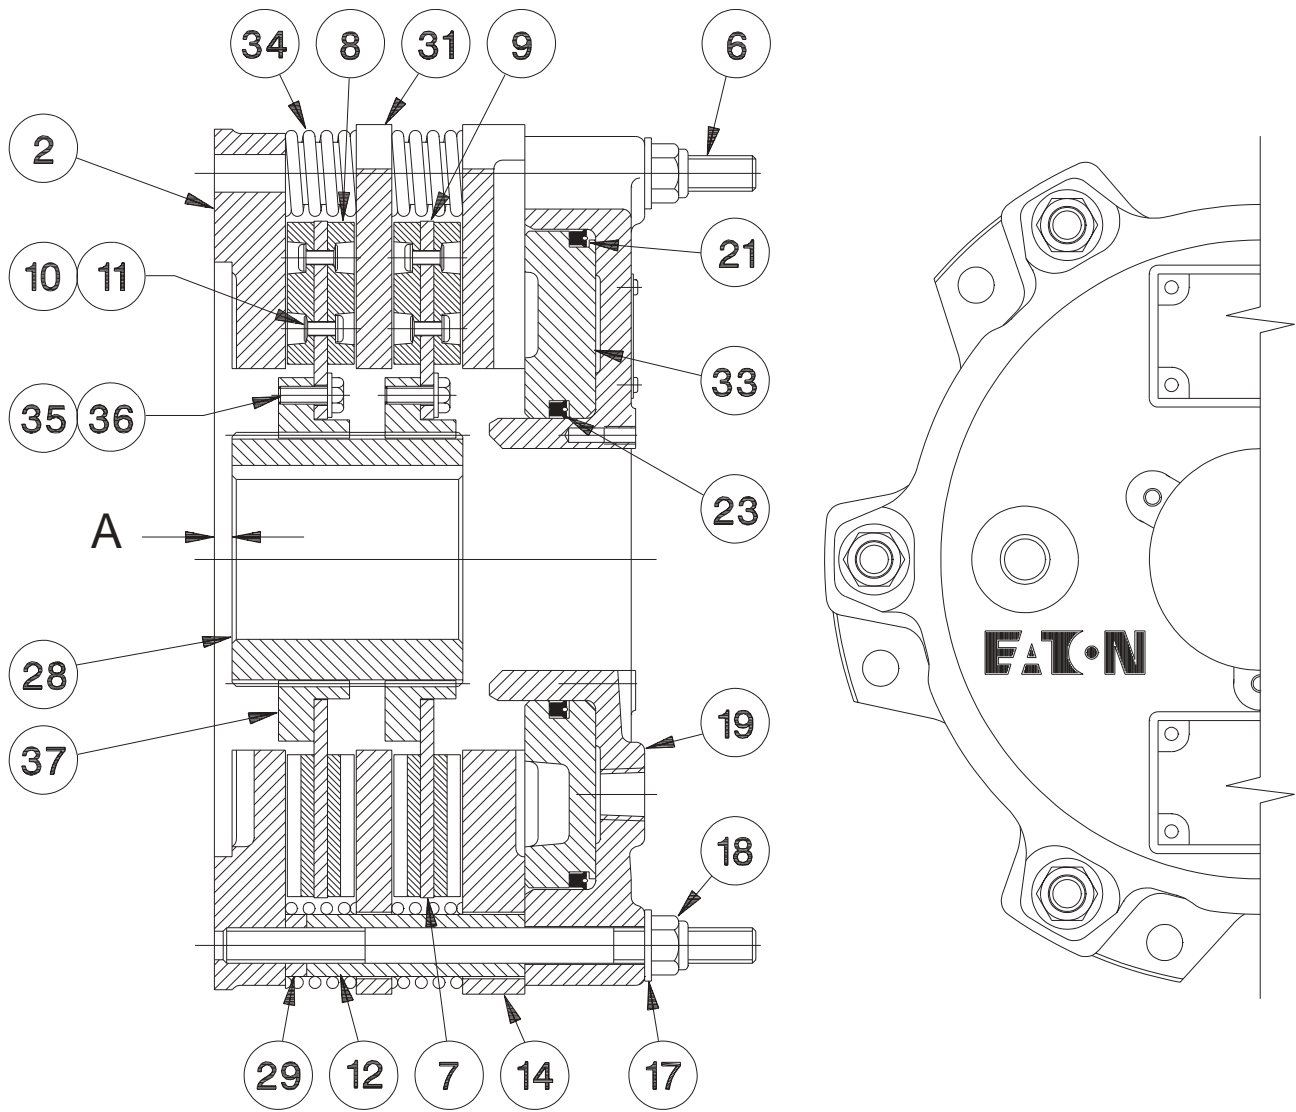

Fig. 1
- 1.2.2 Refer to Figure 1. As air pressure is applied through the ports in the cylinder (19), the piston (33) and pressure plate (14) move towards the mounting flange (2). The movement of the pressure plate compresses the springs (34). When the pressure is sufficient to overcome the force of the springs, clamp force is applied to the friction disc assembly (7) which rides on the gear (28). On multi-disc models, additional friction disc assemblies and reaction plates (31) are clamped between the pressure plate and mounting flange.
2.2.1 Table 1 shows the relationship between the element mounting surface and the end of the gear (dimension "A" on Figure 1). The gear is bored and keyed for a resulting Class FN2S interference fit for inch shafting and ISO System S7h6 for metric shafting.
- 2.3.4 Press the gear onto the shaft, making sure the "A" dimension between the gear and the mounting surface is maintained. See Figure 1 and Table 1. Heating the gear uniformly to approximately 250°F (121°C) will expand the bore and ease assembly.